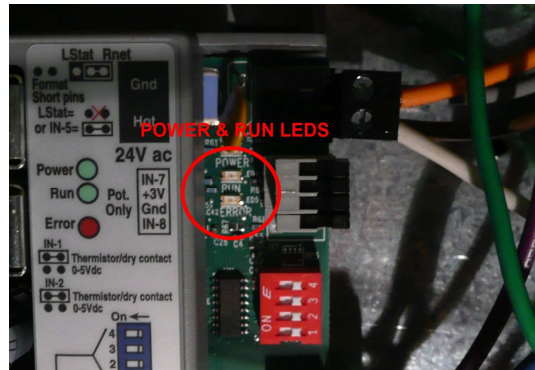

FIG. 5
2. Next provide power to the heater/controls unit by turning on the breaker. Confirm that the DDC controller has flashing lights in the upper right hand corner of the unit. A solid "power LED" indicates proper power supply, and a blinking "run LED" indicates that the unit is functioning and running the program as expected. See Figure 5.